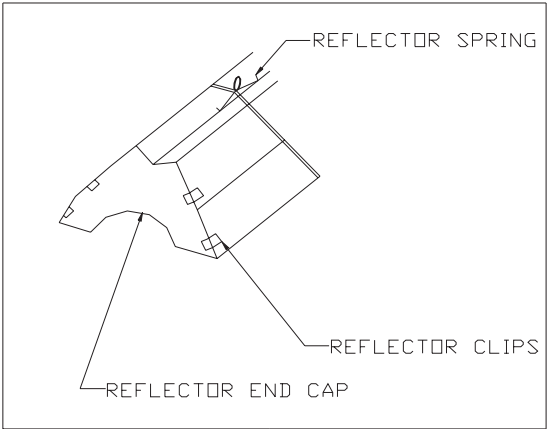

Figure 2.5.2
2. Slide reflectors through wire suspension hangers and adjust the reflector positioning spring in the V-groove on top of the reflector. Figure 2.5.2